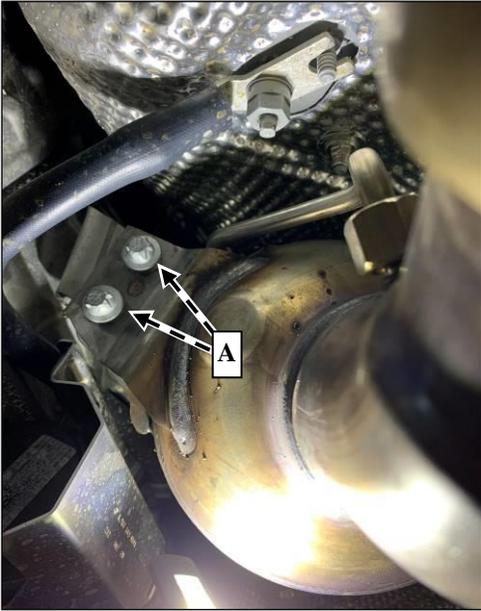

Figure 1
- 2.1. Remove bolts (A) from catalytic converter mounting support (Figure 1).